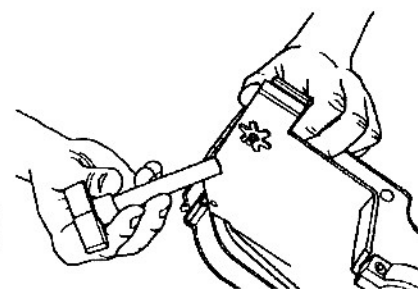

Fig. 35
46. Insert the carriage bolt (187) through the plate clamp (182) and lower saw guard (183). Place an "O" ring washer (189) on the carriage bolt. Then place a flat washer (181) on the carriage bolt, and thread the riving knife knob (191) into the saw guard, as seen in Fig. 35.